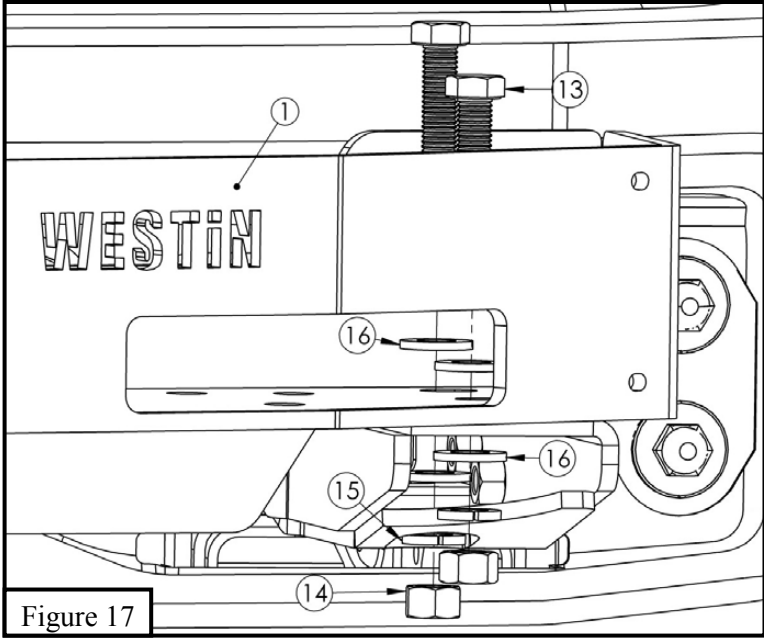

Figure 17
16. Locate (1) Winch Tray (Item 1) and loosely secure onto the Lower Mount Brackets using (4) M12 hex head cap screws, (4) M12 split lock washers, (8) M12 flat washers, and (4) M12 hex nuts. **See Figure 17.**